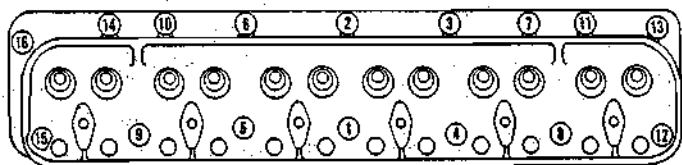

FIG. 25. CYLINDER HEAD BOLT TIGHTENING SEQUENCE
**CYLINDER HEADBOLT TIGHTENING.** - When replacing the cylinder head, first coat the cylinder head bolts with head gasket sealer and then tighten the head bolts in the sequence shown in Figure 25.